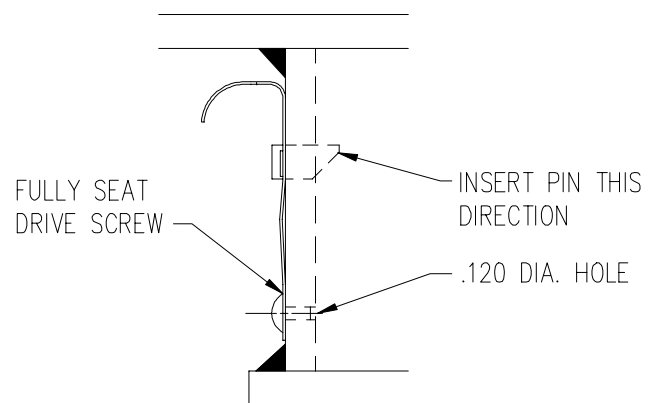

FIGURE 2
3. PLACE NEW PIN IN SLOT OF NEW RETAINER WITH ANGLED NOSE FACING DOWN AS SHOWN IN FIGURE 2 AND POSITION PIN/RETAINER ASSEMBLY ON TUBE WITH PIN IN HOLE.